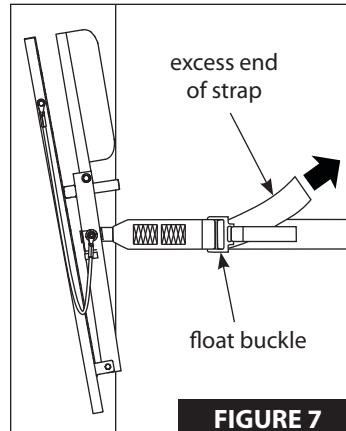

FIGURE 7
c. Pull on excess end of strap firmly - snugging up stand to tree. **SEE FIGURE 7.**